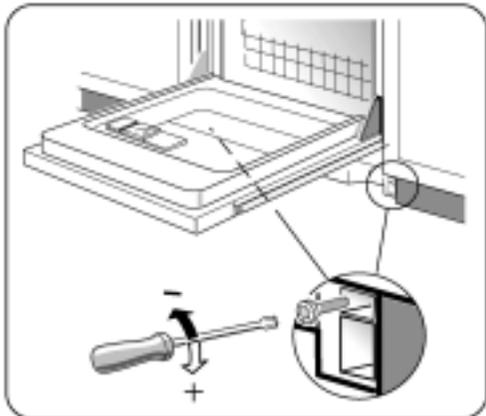

Figure 29/illus. 29
2) Insert the screws as shown in Figure 29. Turning the screw clockwise increases the spring tension. Turning the screws counter-clockwise decreases the spring tension.